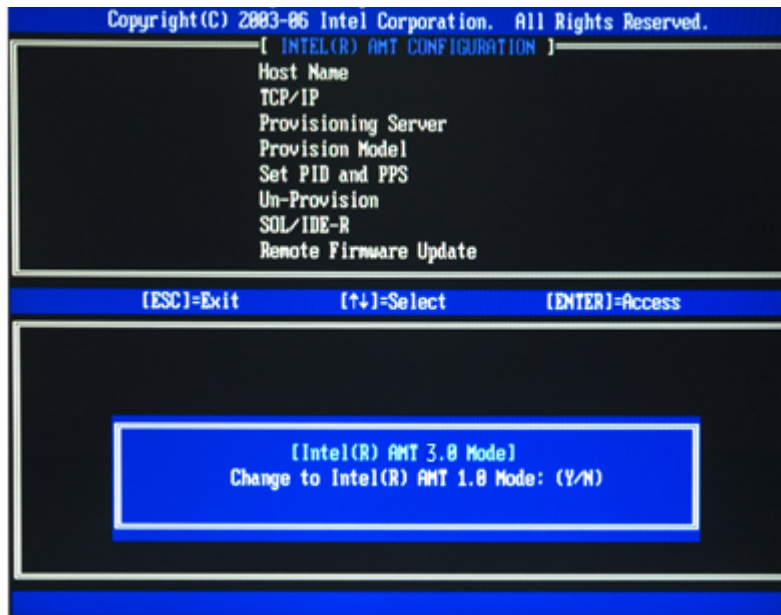

Figure 8-7: Intel® AMT 3.0 Mode
Step 7: When the screen in **Figure 8-7** prompts, enter **N** and press **Enter**.